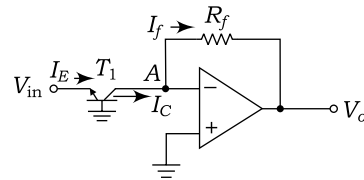

Fig. 7.111
33. Compute the output voltage V_O of an antilog amplifier using OP-AMP and transistor as shown in Fig. 7.111. Assume $V_{in} = 200$ mV, $R_f = 10$ K, $\tau = 1$, $V_T = 20$ mV and $I_O = 10^{-13}$ A